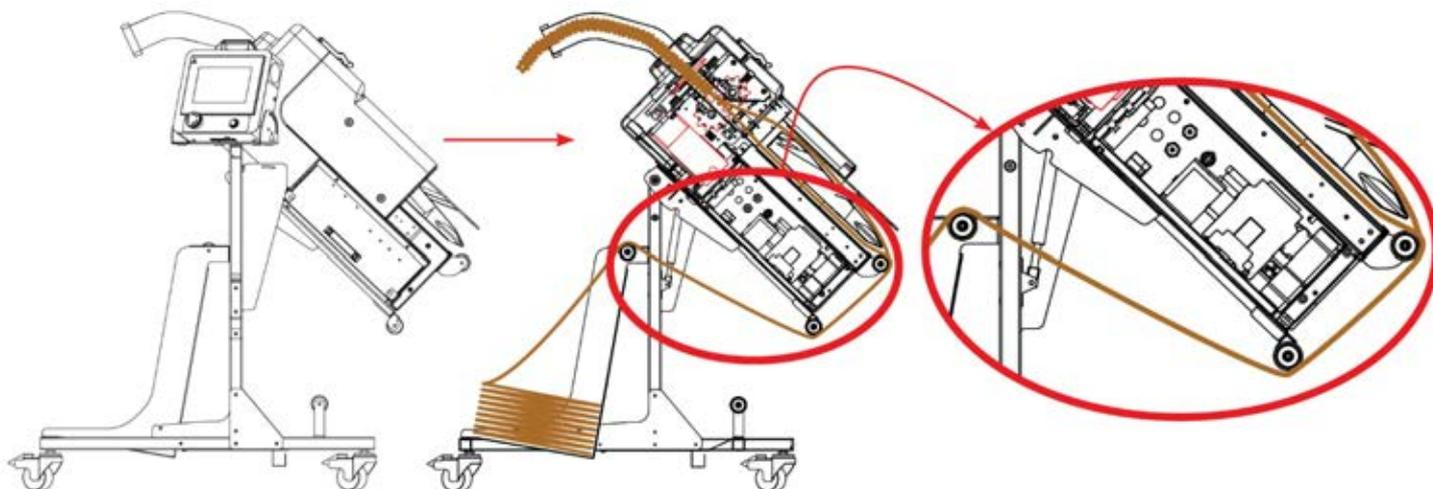

Figure 21 Thread Paper Through Rollers
1. Place the paper supply in the paper bracket according to the arrow on the bracket (refer to Figure 21).